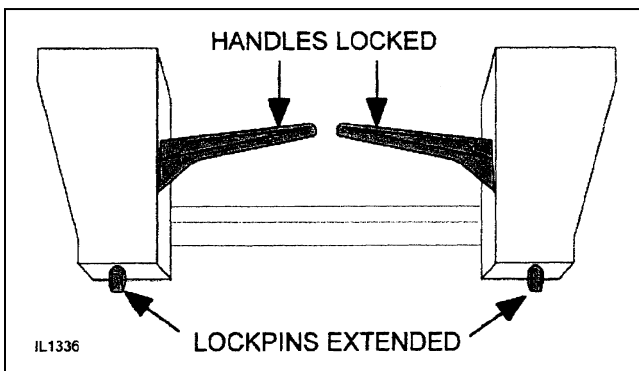

Figure 3. Attachment Coupler Handles - Locked
8. Engage the latching mechanism to secure attachment to loader. The lockpins must be completely extended and secured into the retaining slots provided on the attachment. Figure 3.